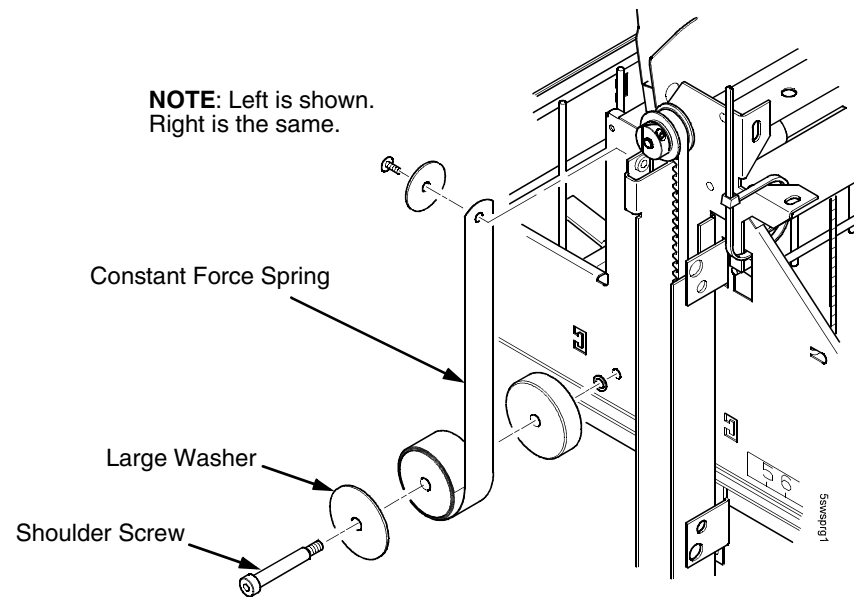

Figure 86. This figure shows how to release the constant force spring.
6. Remove the shoulder screw, washers, and spacer that secures the constant force spring to the vertical rail. (Figure 86.)